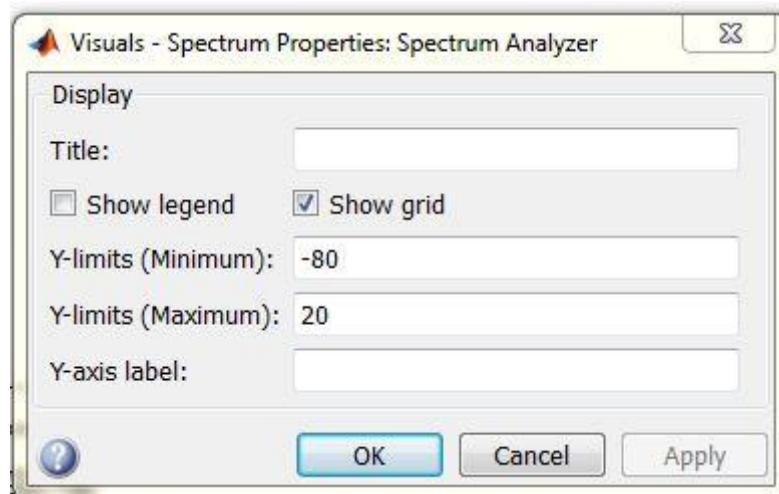

Figure 15: Spectrum Analyzer Properties.
7. For **Spectrum Analyzer**: There will no specific changes required in the properties of the Spectrum Analyzer as shown in figure 15, changes to see different forms of output can easily be made while running the simulation itself dependent on what properties we want to see in the output.